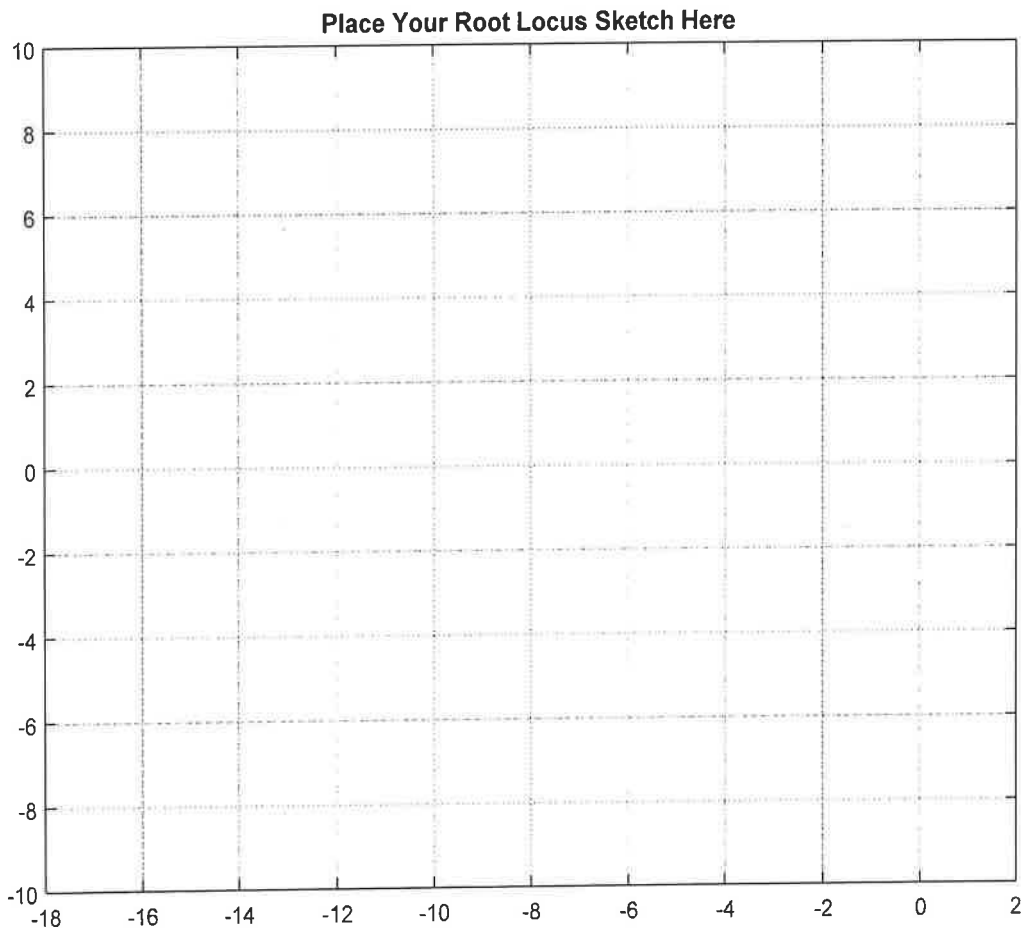

Figure Q8.2 – Root Locus of the System in Question 8
- 1) **(10 marks)** Sketch the Root Locus for the system, in the space provided in Figure Q8.2. Calculate all relevant coordinates: asymptotic angles, break-in/away points, the location of the centroid and the coordinates of the crossover with the Imaginary axis, i.e. ω_{osc} and the corresponding value of the critical gain, K_{crit} , at which the system becomes marginally stable.